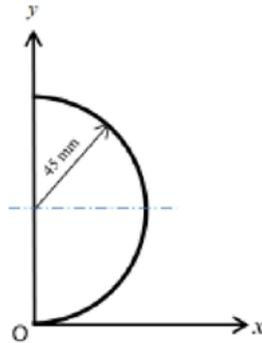

Fig. 3
- 4 (a) Fig. 3 shows a semi-circular plate of radius 45 mm. The plate has uniform density and is aligned within a Cartesian coordinate system with the origin O, as shown.